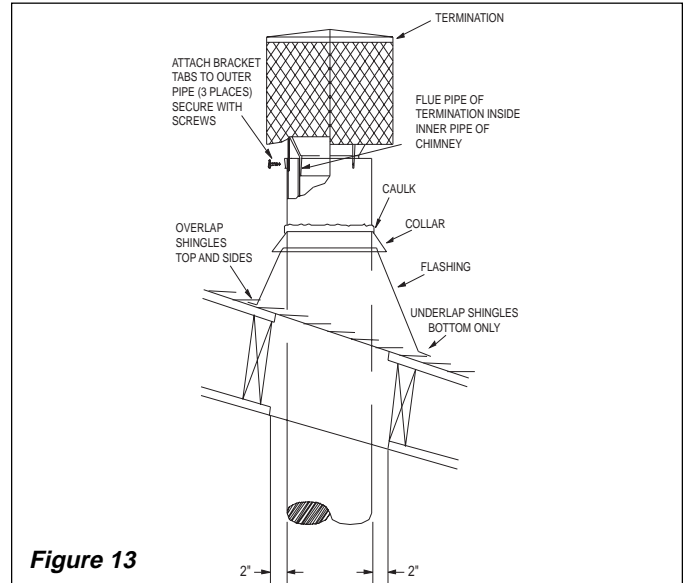

Figure 13
STEP 2: Install storm collar on double wall chimney, apply waterproof caulking around flashing top and push storm collar down securely on sealer and flashing (see Figure 13).